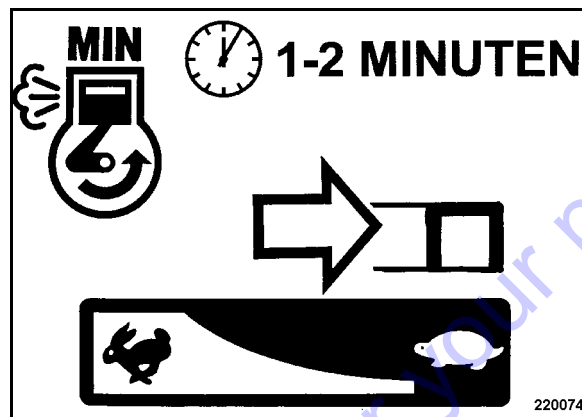

Fig. 25
- Move the throttle lever (Fig. 25) back to idle speed position.